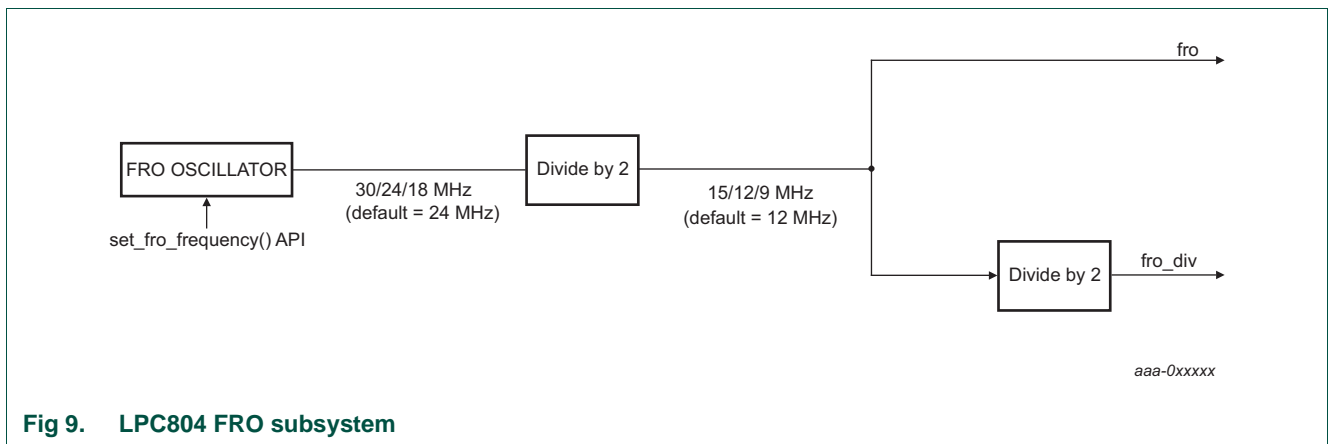

Fig 9. LPC804 FRO subsystem
2. Select the fro\_oscout (30 MHz/24 MHz/18 MHz) using the set\_fro\_frequency API call: Chapter 7 “LPC804 FRO API ROM routine” and Figure 9 “LPC804 FRO subsystem”.
fro_div	Divided output of the currently selected on-chip FRO oscillator. See <a href="#">Figure 9 “LPC804 FRO subsystem”</a> .
fro	The output of the currently selected on-chip FRO oscillator. See <a href="#">Figure 9 “LPC804 FRO subsystem”</a> .